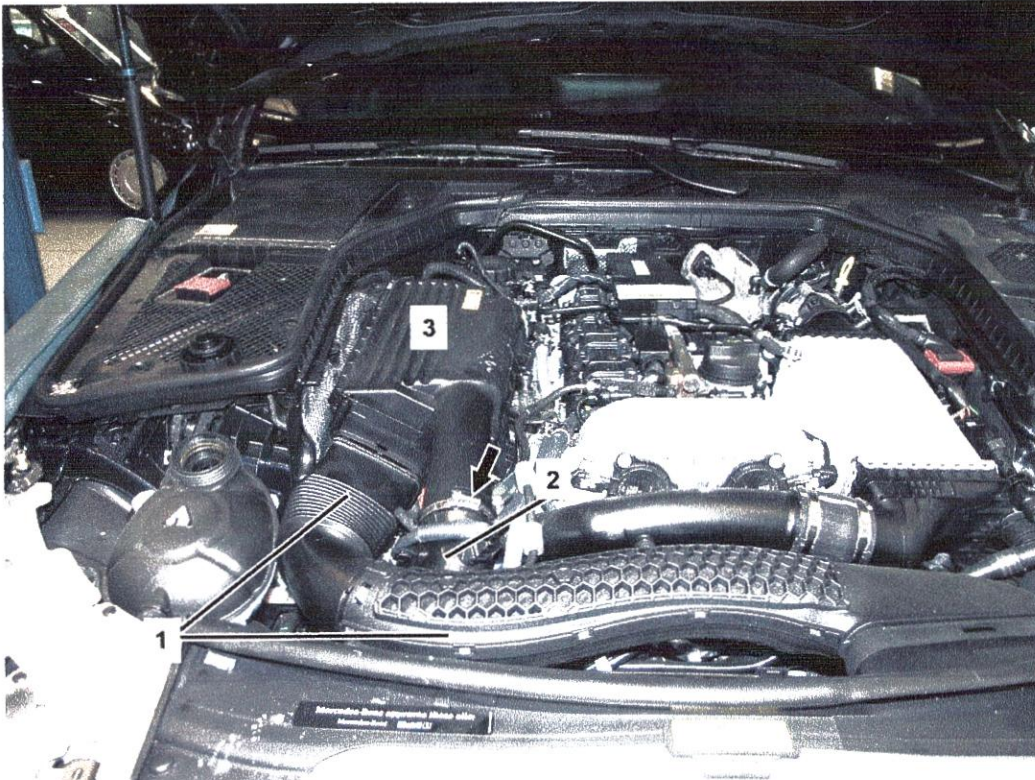

Figure 2 (lower charge air duct clamp not shown)
- Remove air duct (1, Figure 2).
- Separate charge air duct (2) from turbo charger and air cleaner (3).
- Lift air cleaner (3) off of mounting grommets and remove.